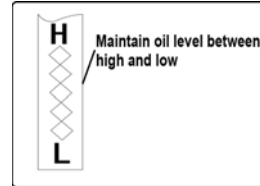

Fig. 33
4. Unscrew and remove oil fill cap from oil filler tube. Note oil level. If oil reading on dipstick is below “**LOW**” mark, slowly add oil to reach “**HIGH**” level. See Figure 33.